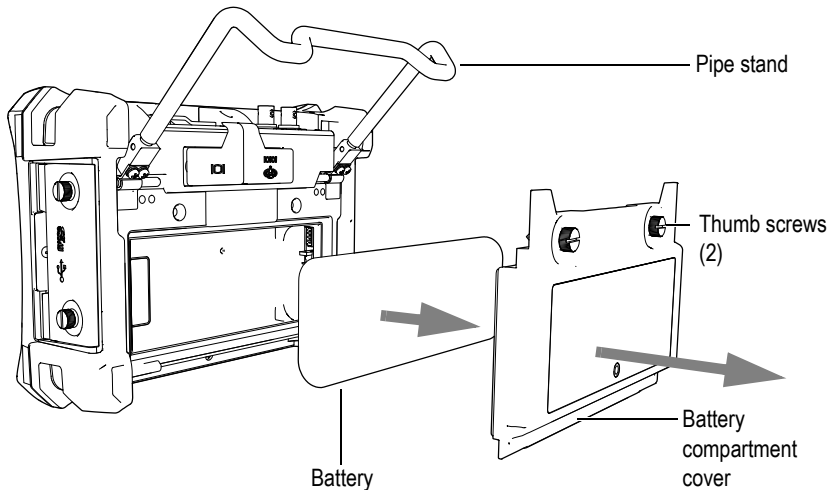

Figure 1-7 Removing the lithium-ion battery
2. At the back of the instrument, loosen the two thumb screws securing the battery compartment cover (see Figure 1-7 on page 27).
3. Remove the battery compartment cover (see Figure 1-7 on page 27).
6. Install the battery compartment cover at the back of the instrument, and then tighten the two thumb screws to complete the installation (see Figure 1-7 on page 27).